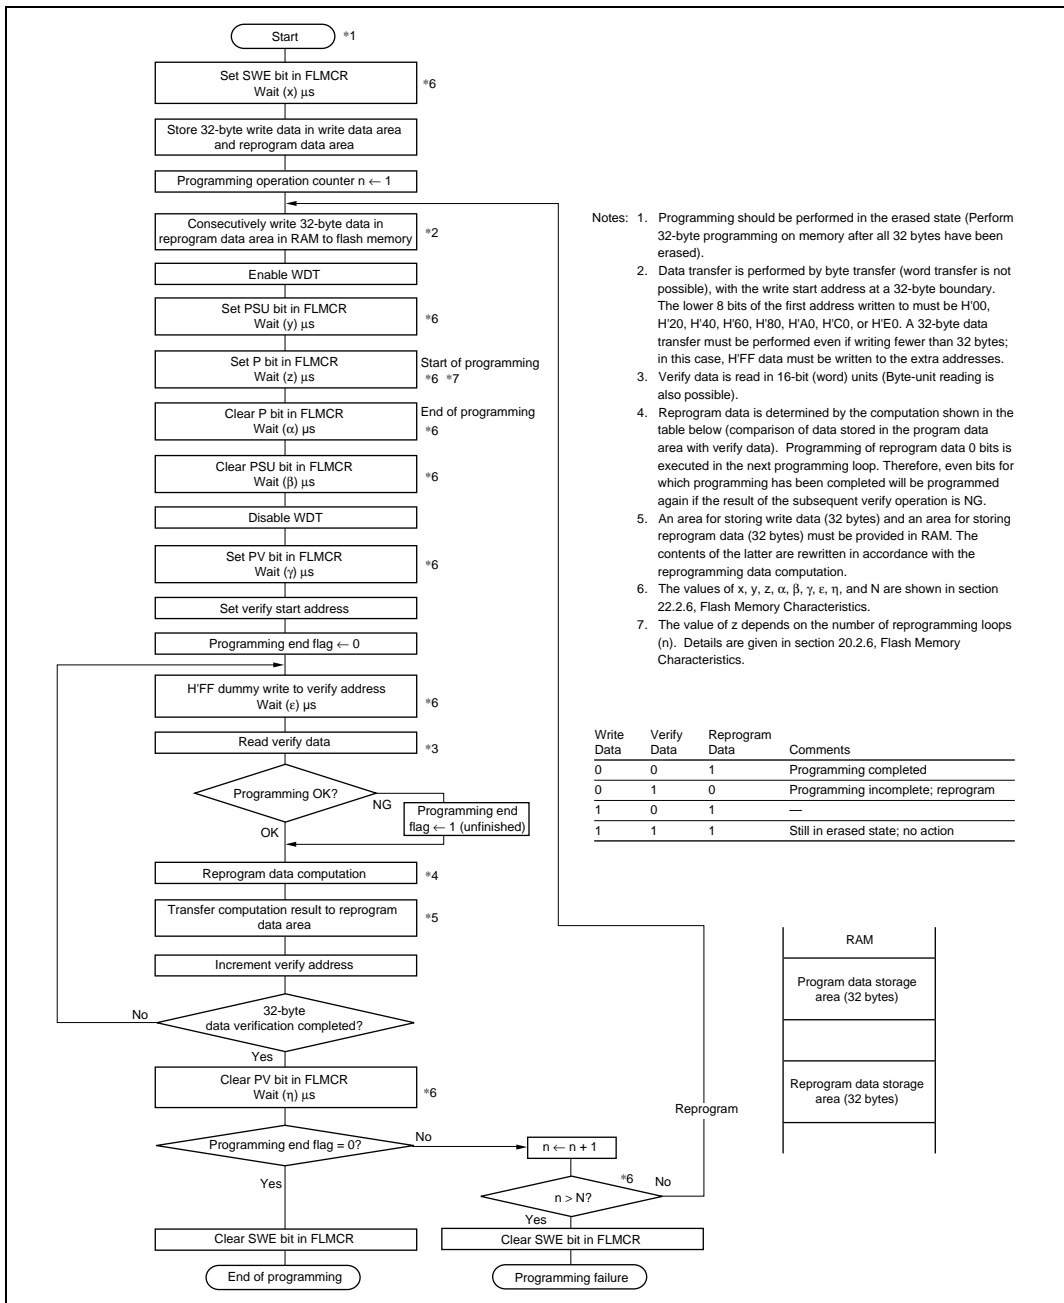

Figure 17.11 Program-Verify Flowchart (32-byte Programming)
When writing data or programs to flash memory, the program/program-verify flowchart shown in figure 17.11 should be followed. Performing programming operations according to this flowchart will enable data or programs to be written to flash memory without subjecting the device to voltage stress or sacrificing program data reliability. Programming should be carried out 32 bytes at a time.
Clear the P bit in FLMCR, then wait for at least (α) μs before clearing the PSU bit to exit program mode. After exiting program mode, the watchdog timer setting is also cleared. The operating mode is then switched to program-verify mode by setting the PV bit in FLMCR. Before reading in program-verify mode, a dummy write of H'FF data should be made to the addresses to be read. The dummy write should be executed after the elapse of (γ) μs or more. When the flash memory is read in this state (verify data is read in 16-bit units), the data at the latched address is read. Wait at least (ϵ) μs after the dummy write before performing this read operation. Next, the originally written data is compared with the verify data, and reprogram data is computed (see figure 17.11) and transferred to RAM. After verification of 32 bytes of data has been completed, exit program-verify mode, wait for at least (η) μs , then determine whether 32-byte programming has finished. If reprogramming is necessary, set program mode again, and repeat the program/program-verify sequence as before. The maximum number of repetitions of the program/program-verify sequence is indicated by the maximum number of programming operations (N).